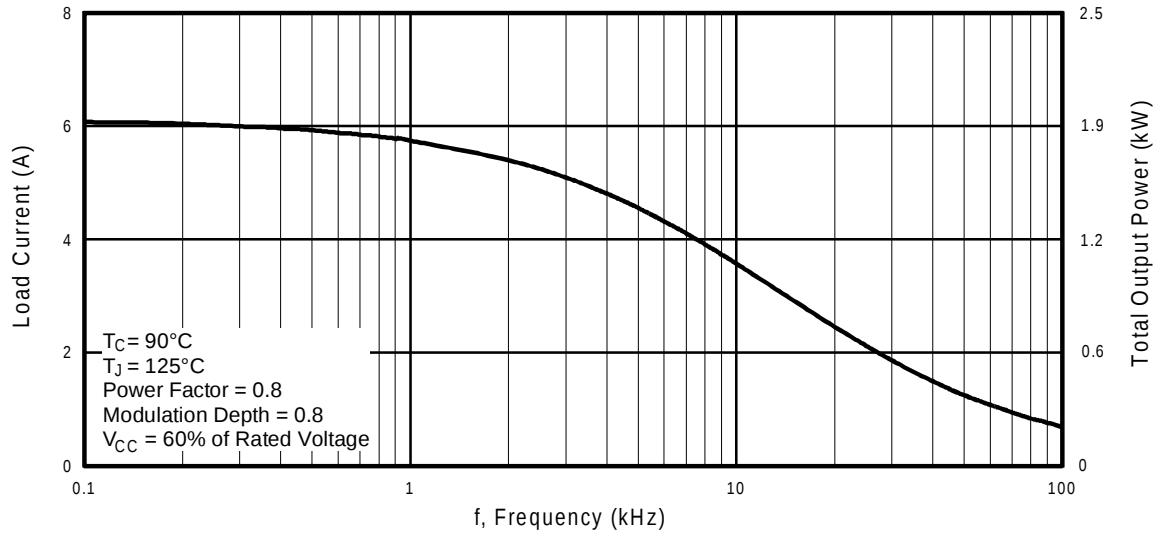

Fig. 1 - RMS Current and Output Power, Synthesized Sine Wave
- See Fig. 1 for Current vs. Frequency curve
4.6 A_{RMS} per phase (1.4 kW total) with T_C = 90°C, T_J = 125°C, Supply Voltage 360Vdc, Power Factor 0.8, Modulation Depth 80% (See Figure 1)